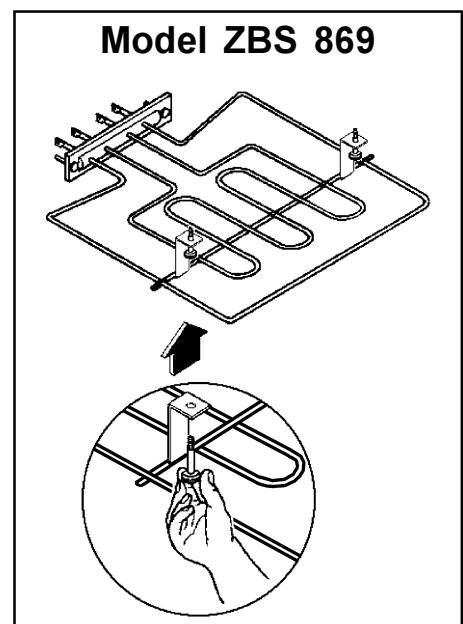

Fig. 12
- Undo the screws which hold the grill in place (see Fig. 12). When doing this operation for the first time, we recommend using a screwdriver.